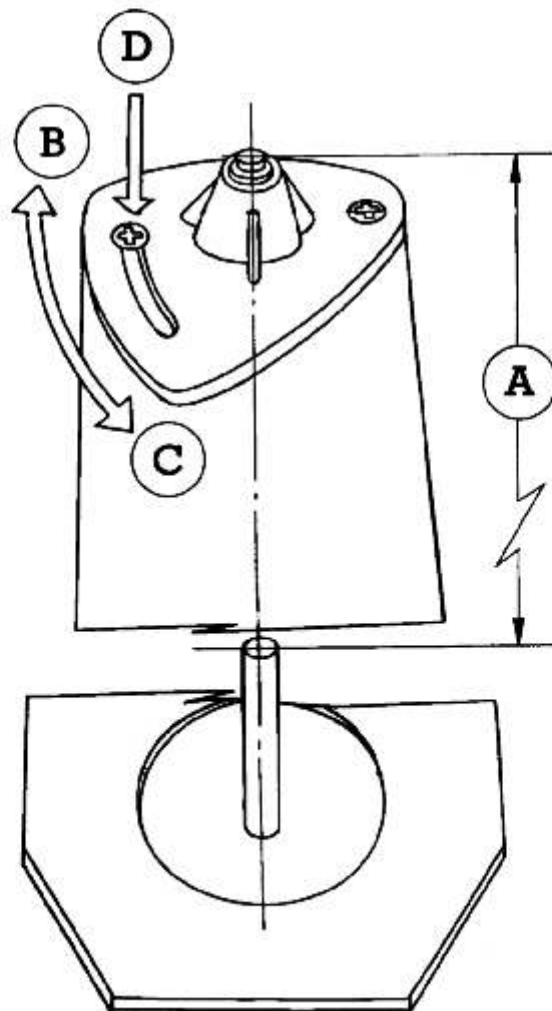

Fig. 6.
**6. ADJUSTMENT :** (Refer to Fig. 6.)